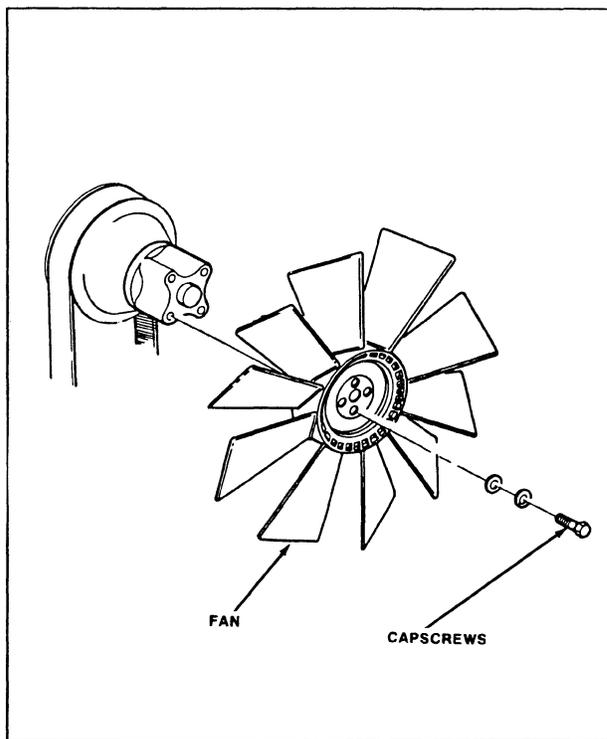

FIGURE 2-6: Fan Removal
9. Remove capscrews and fan (Figure 2-6).